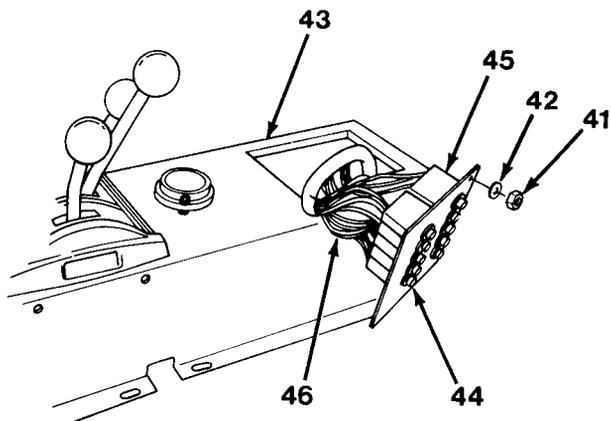

Figure 17-6
19. Removal of circuit breakers: Remove four capscrews (41) and washers (42). Lift circuit breaker panel (43) up and out of frame. Remove retaining nut (44) and push circuit breaker (45) through panel (43). Tag and disconnect wires (46, Figure 17-6). If necessary, remove nine remaining circuit breakers (45) using the same procedure.